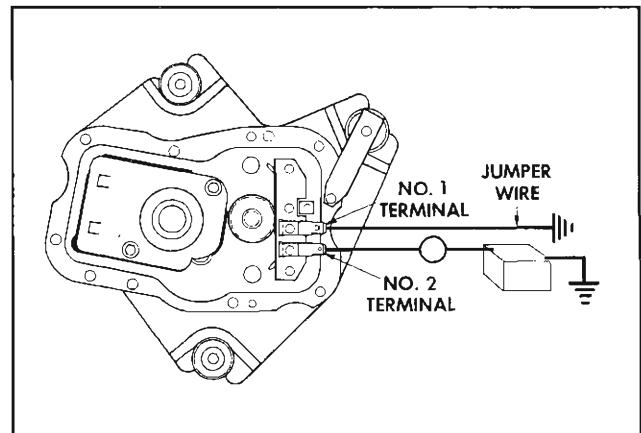

Fig. 11-61 Connection for Test Purposes
Fig. 11-61 shows the proper method of connecting jumper leads to the wiper so that it can be operated independently of the dash switch or car wiring for test purposes. NOTE: Specification table at end of this section lists current draw data.
2. If everything checks out in Step 1 and wiper fails to operate, disconnect wiring harness from wiper and check for 12 volts at harness terminal that connects to wiper terminal No. 2, Fig. 11-61.
3. Connect 12 volt supply to No. 2 wiper terminal and connect a jumper wire from terminal No. 1 to ground (Fig. 11-61). If wiper operates, the dash switch or wiring between dash switch and wiper is defective.
2. If wiper still operates in Step 1, disconnect wiring from wiper and connect 12 volt supply direct to wiper terminal No. 2 (Fig. 11-61). Do not connect any jumper wire to terminal No. 1.
Connect 12 VDC Power source and ammeter to wiper as shown in Fig. 11-61 and observe current draw and wiper operation. NOTE: Identify wiper part number from wiper motor end cap and select proper current draw from specification table.
Wiper crank arm stops rotating immediately when jumper wire is disconnected from wiper terminal No. 1 (Fig. 11-61). NOTE: When crank arm has reached park position the crank arm index grooves will line up approx. with the ridges on the gear box cover.
Wiper crank arm fails to stop in park position when jumper wire is removed from wiper Terminal No. 1. Fig. 11-61.
2. Check for grounded condition in the internal motor lead that connects to terminal No. 1, Fig. 11-61.